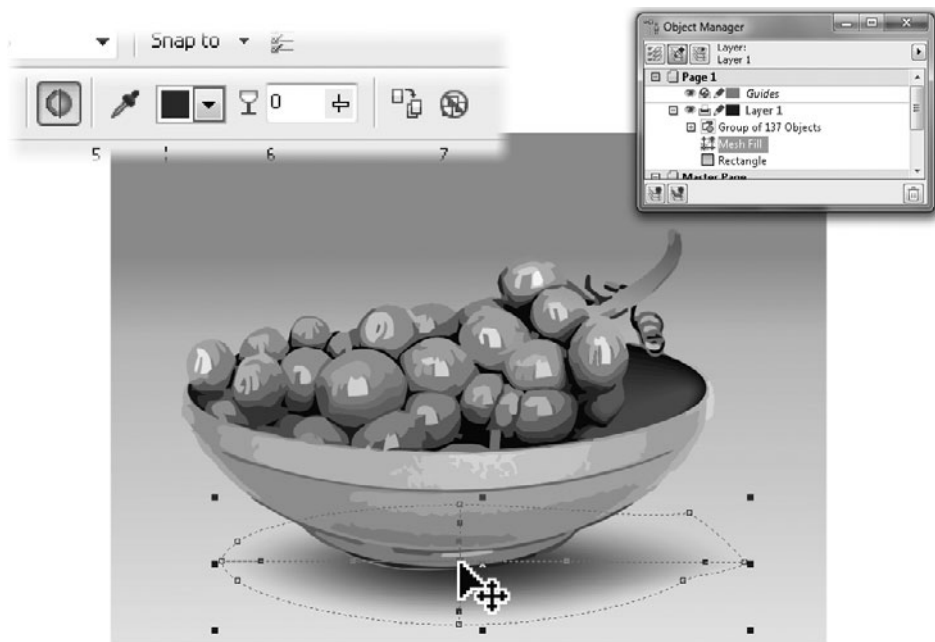

FIGURE 1-3 Work with the Mesh fill tool to make color and transparency transitions in a way that regular fountain fills cannot match.
8. Have some fun shaping the ellipse to make it a little more irregular and less like an ellipse. You'll see that the Mesh fill's transparent regions change as you reshape the ellipse, and you can make the fill even more intricate by click-dragging any of the mesh intersection node control handles. You can also recolor and specify a different transparency by clicking a path and then editing it. Figure 1-3 shows some of the editing in progress.